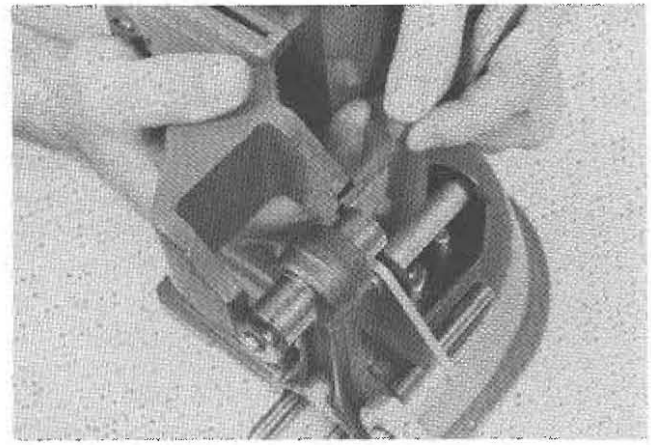

Fig. 3-8 Checking Rod Twist
2. Use a rod alignment fixture to check for connecting rod twist or parallelism (Fig. 3-8 & 3.9). The service limit is .0031 in. (0.08 mm) per 4 in. (100 mm). If the rod is twisted or bent beyond the service limit, the rod will have to be straightened or replaced.